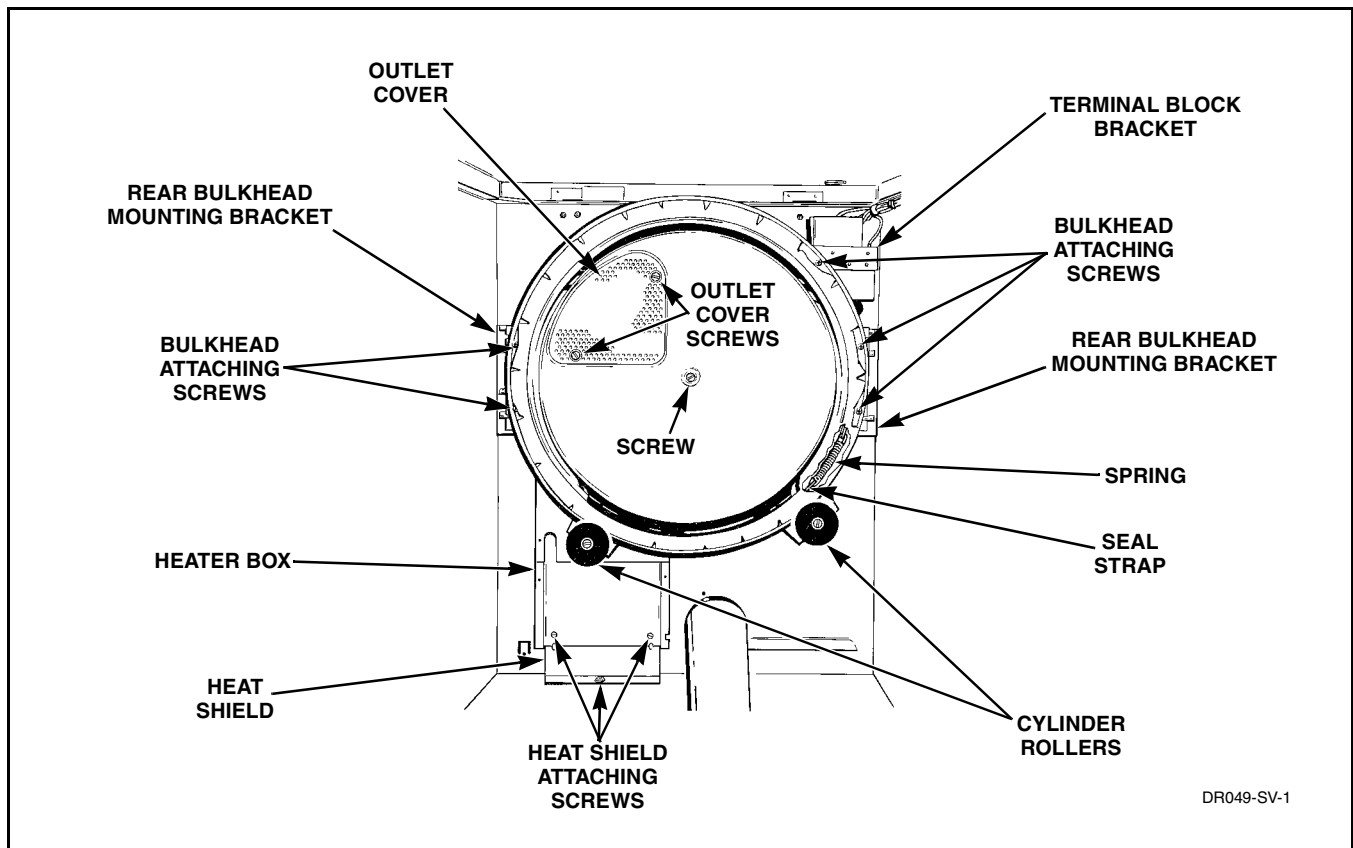

Figure 35
- Pull cylinder forward allowing rear of cylinder to drop down exposing rollers. Refer to *Figure 35*.
Open door and remove two screws holding outlet cover to rear bulkhead. Refer to *Figure 35*.
- j. Remove screw holding heat shield to dryer base. Refer to *Figure 35*.
- k. Remove one screw holding rear bulkhead to terminal block bracket. While supporting bulkhead, remove the four screws holding rear bulkhead to mounting brackets, then lift complete assembly out of dryer. Refer to *Figure 35*.
- (1) Remove two screws holding heat shield to heater box. Refer to *Figure 35*.